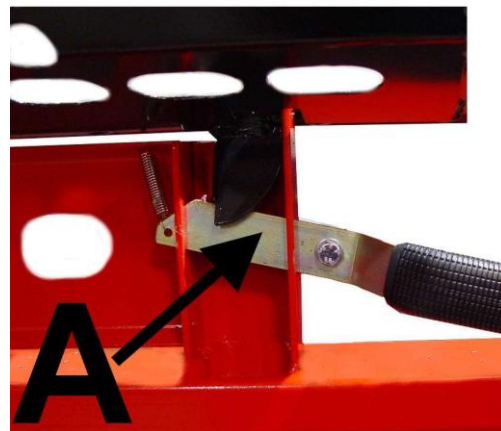

Figure 43.
3. Ensure that the locking lever A locks guard in the raised position! (in Figure 43)